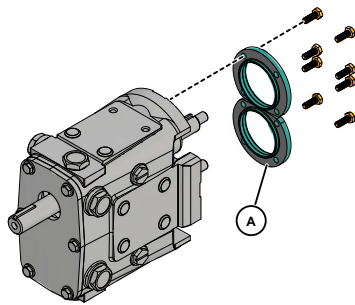

Figure 43 - Remove Sealant from Retainer
4. Remove the silicone sealant (Figure 43, item A) from the bearing retainer and gear case.